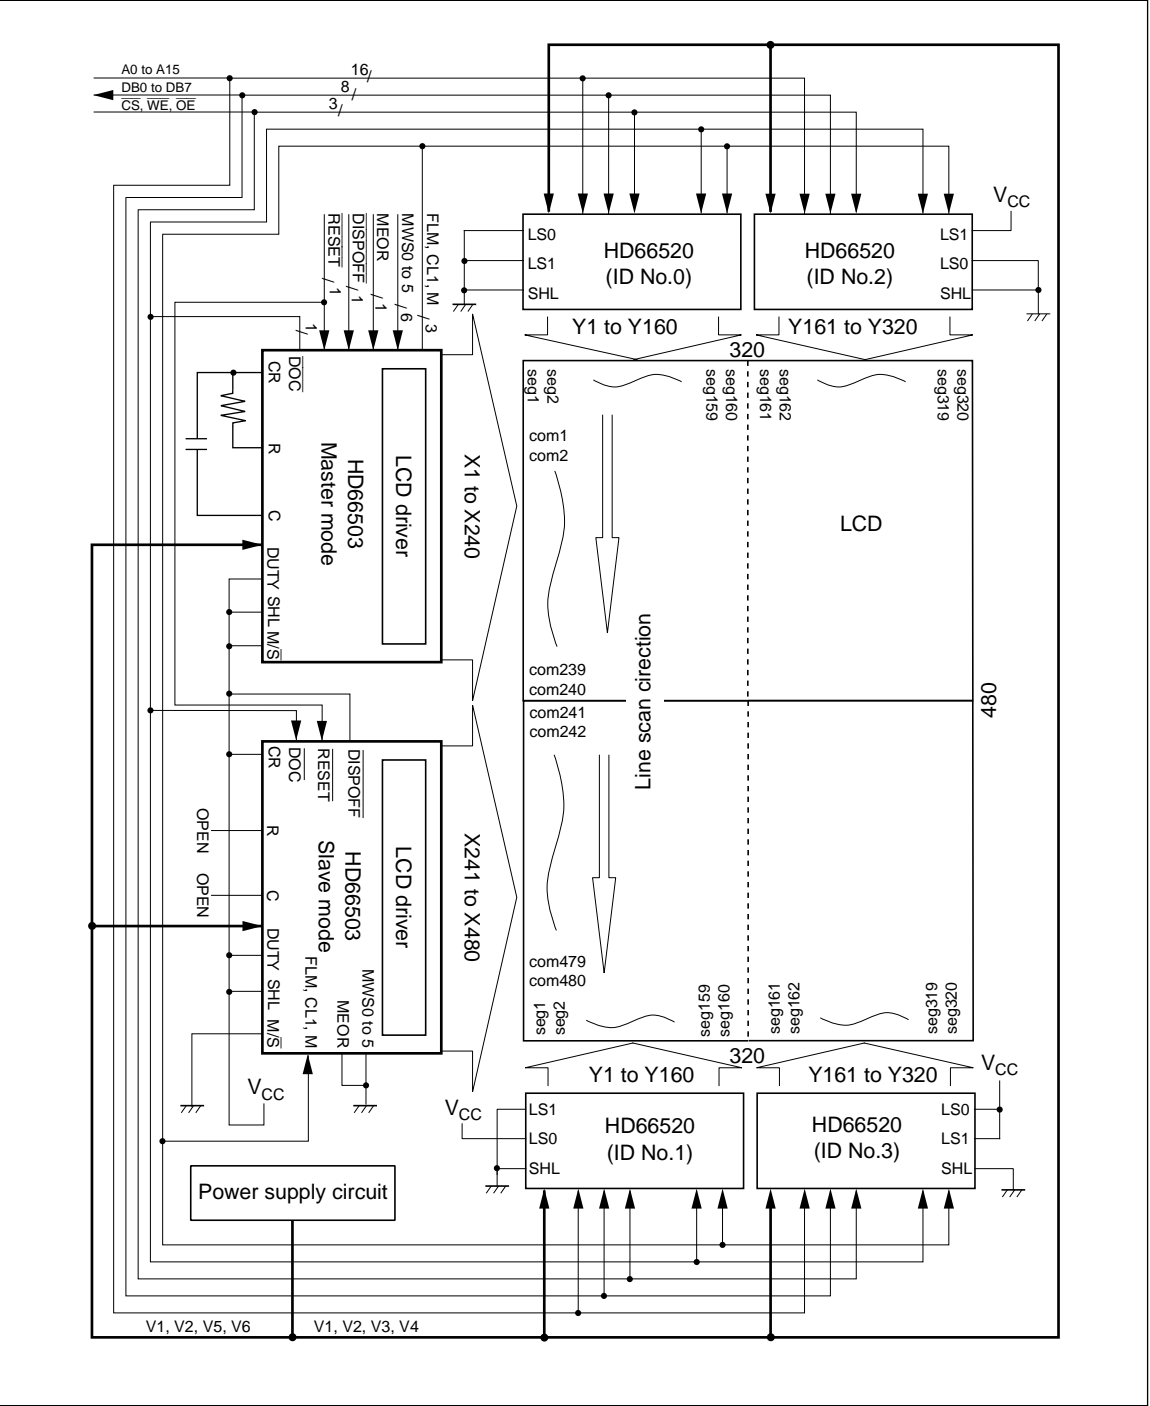

Figure 12 System Configuration (2)
Figure 12 shows a system configuration for a 240 × 320-dot LCD panel using segment driver HD66520 with internal bit-map RAM. Refer to Timing Chart (1) for details.